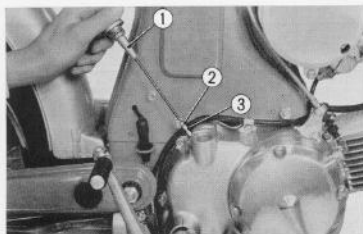

Fig. 5.23 Oil level gauge
- b. The proper oil level is indicated by the oil between the level markers on the gauge when checked without screwing the cap down. (Fig. 5.23)